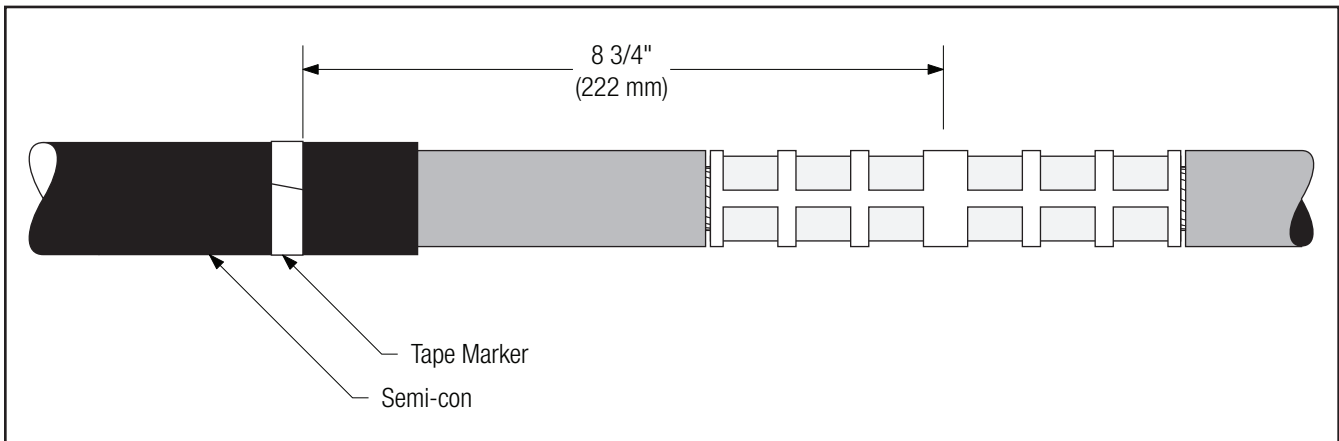

Figure 9
- 4.1 Apply a tape marker to semi-con insulation shield on cable which does not contain splice. Measure 8 3/4" (222 mm) from center of connector (*Figure 9*).